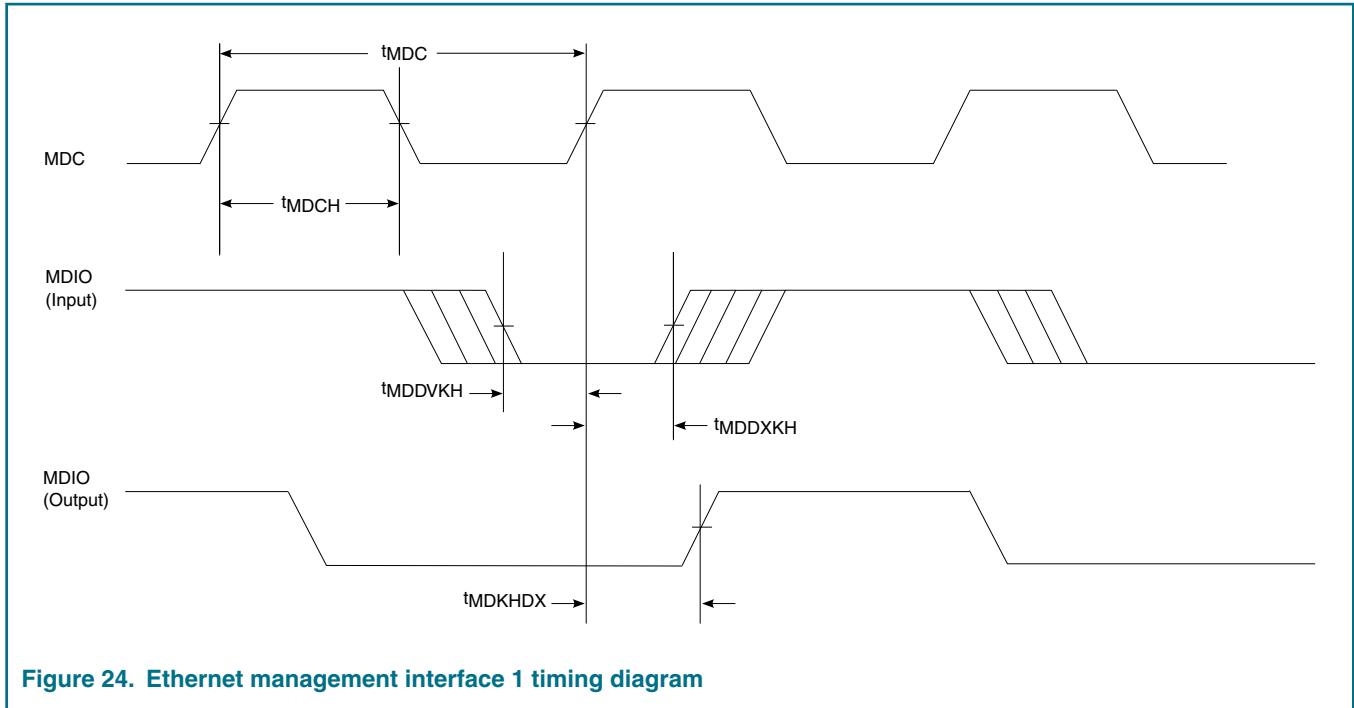

Figure 24. Ethernet management interface 1 timing diagram
5. The symbols used for timing specifications follow these patterns: t_{(first two letters of functional block)(signal)(state)(reference)(state)} for inputs and t_{(first two letters of functional block)(reference)(state)(signal)(state)} for outputs. For example, t_{MDKHDX} symbolizes management data timing (MD) for the time tMDC from clock reference (K) high (H) until data outputs (D) are invalid (X) or data hold time. Also, t_{MDDVKH} symbolizes management data timing (MD) with respect to the time data input signals (D) reach the valid state (V) relative to the tMDC clock reference (K) going to the high (H) state or setup time.
6. See Figure 24. on page 100.